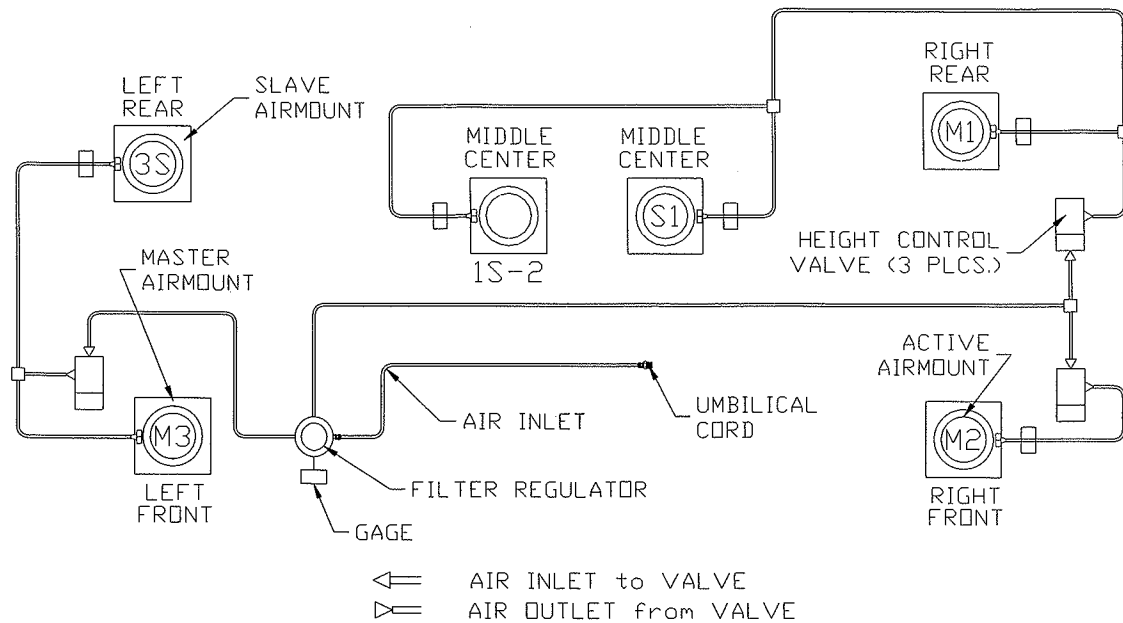

Fig. 11 Mount configuration for 6 Isolator systems with splice connection.
2. Setup one Tabletop on the Isolation Mounts of Non-Isolator supports provided (as shown in Figure 11 and 12) depending on how many isolators or supports are provided with the system.